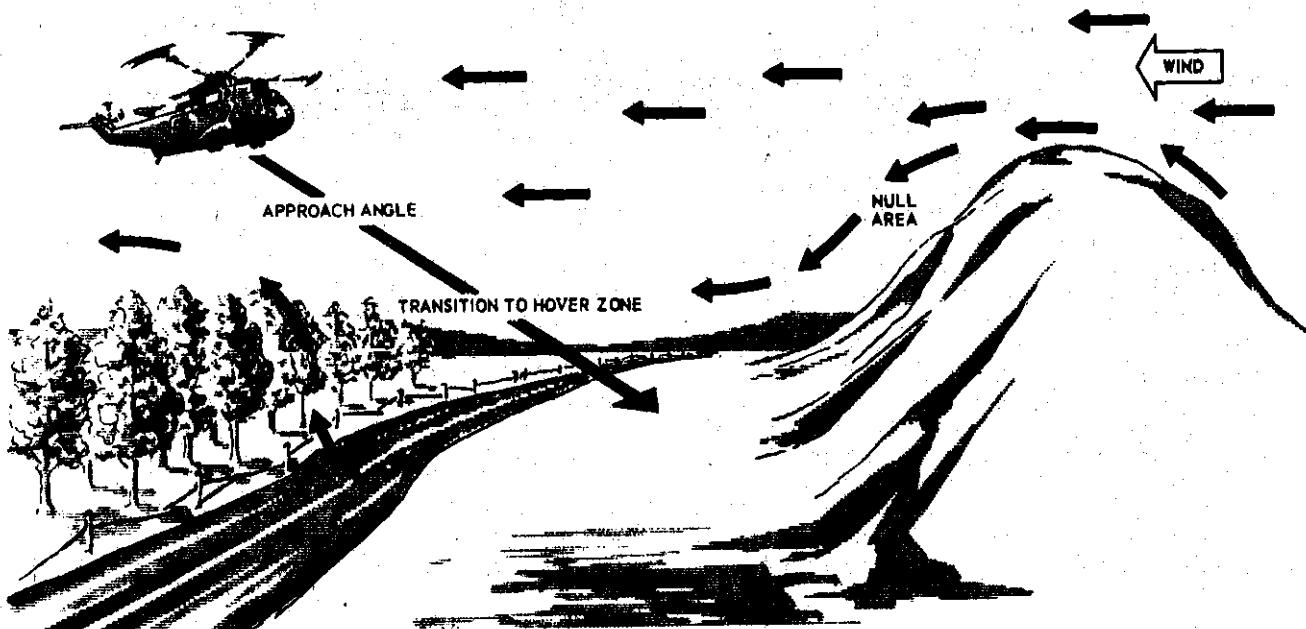

Figure 2-11. Wind Effect In A Confined Area
- e. Evaluate the obstacles in the landing site and consider possible null areas and routes of departure (figure 2-11).